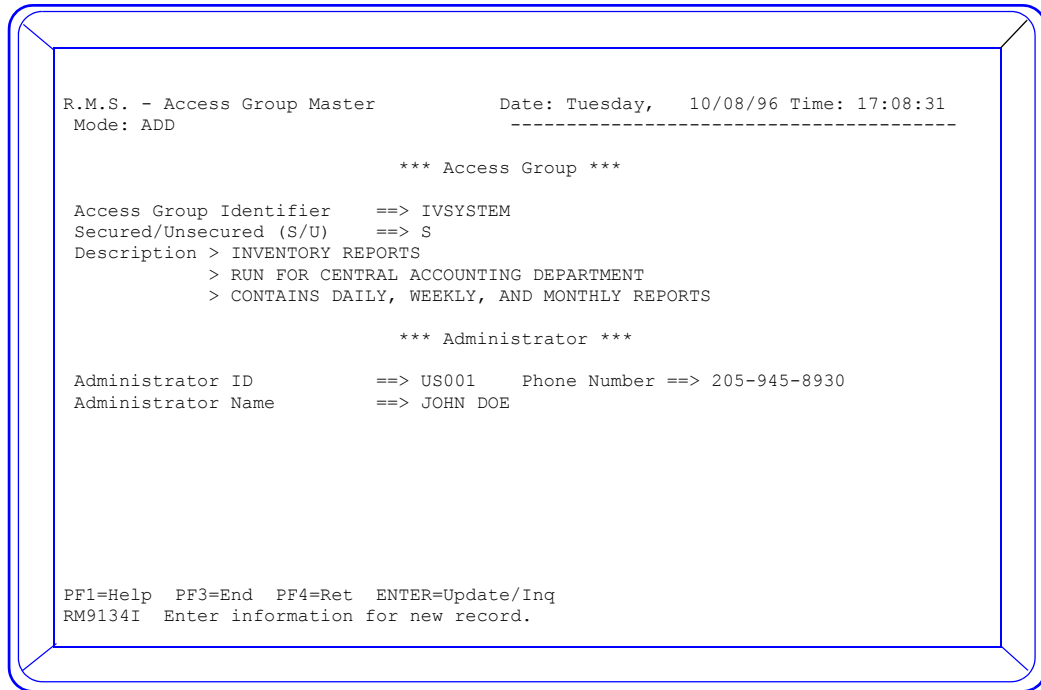

Figure 5. Access Group Master Panel
6. The User Master (*Addition*) panel appears.(*Figure 5*)
8. The next User Master (*Addition*) panel appears.(*Figure 5*)